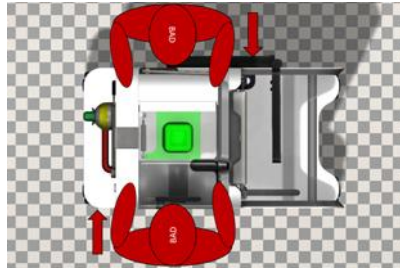

Figure 165: Wrong handling
- DO NOT MOVE THE MACHINE BY THE SIDE AS THERE IS A RISK OF THE ATS TIPPING OVER. (See Figure 165).